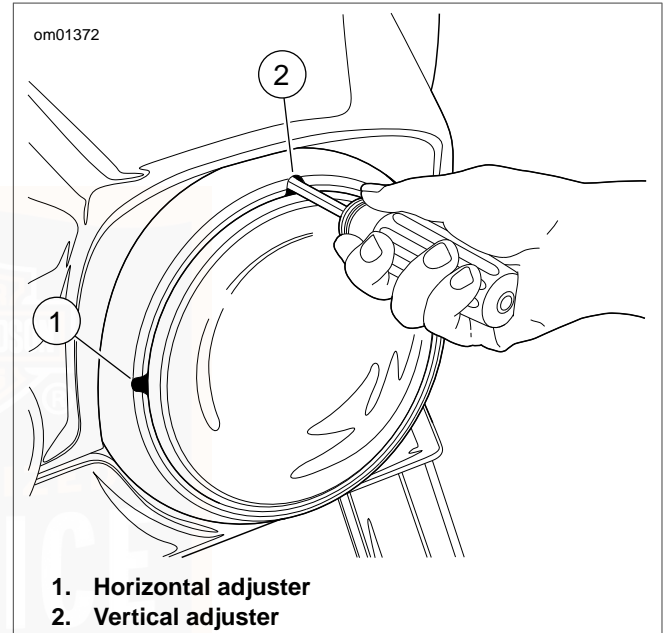

Figure 61. Headlamp Adjusters (typical)
1. See Figure 61. Insert Phillips screwdriver between headlamp housing and rubber gasket.
- a. Turn the vertical adjusting screw (2) to adjust headlamp vertically.
- b. Turn the horizontal adjusting screw (1) to adjust headlamp horizontally.